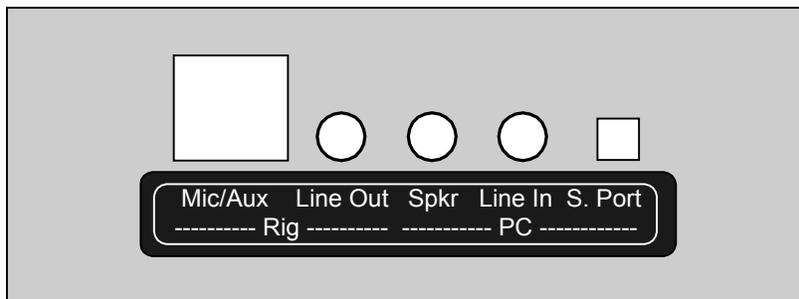

Figure 5.11 Legend Overlay Installed on Back of Enclosure - Configuration -2 (No Relay)
5.4.4 Legend Overlay Configuration -2 - reproduction of the legend for the back side of the enclosure as applied to the back of the enclosure is shown in figure 5.11, *Legend Overlay Installed on Back of Enclosure - Configuration -2 (No Relay)*. This legend should be cut along the black edges of the periphery with no white showing. Apply adhesive to the back of the legend, carefully align it against the bottom edge of the round nuts on the phone jacks and smooth in place.